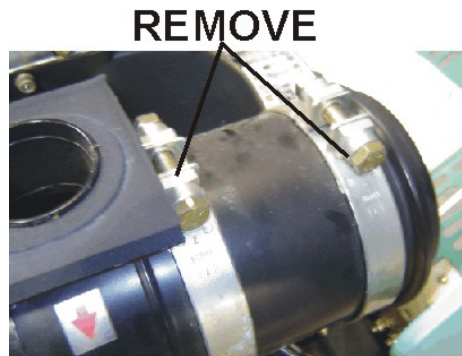

Figure 5. Air Cleaner Clamp Screws Removal
- Remove the screws and clamps (Figure 5) that secure the air cleaner to the support bracket.